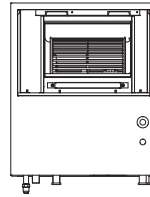

Fig. 2
(1) When installing the product, refer to “3. SELECTING INSTALLATION SITE” and consider the product size as shown Fig. 2 and Table 1.